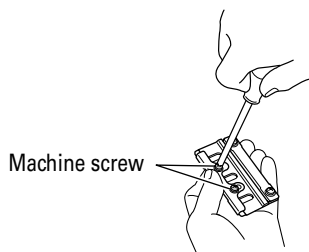

Fig. 14
- (2) Press the turned surface of set plate (A) to the wall surface b while adjusting the blade edge to the wall surface a of the set gauge. Then, tighten them with the 2 screws. (Fig. 14, 15)